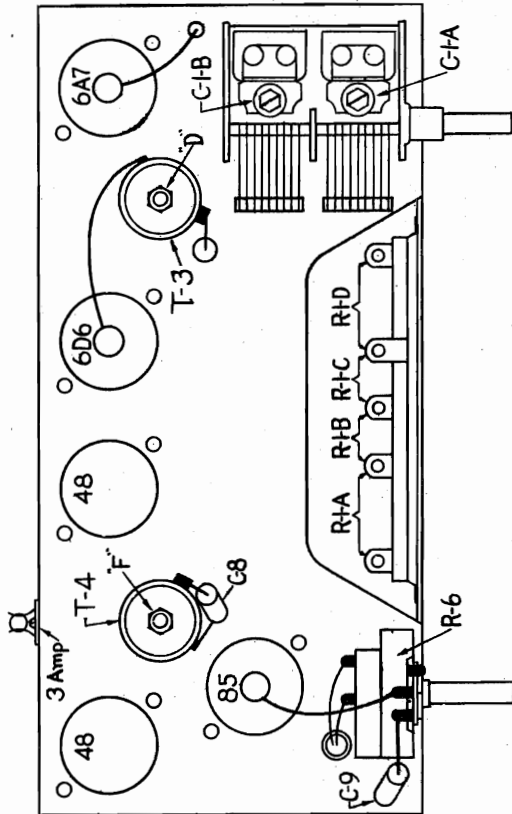
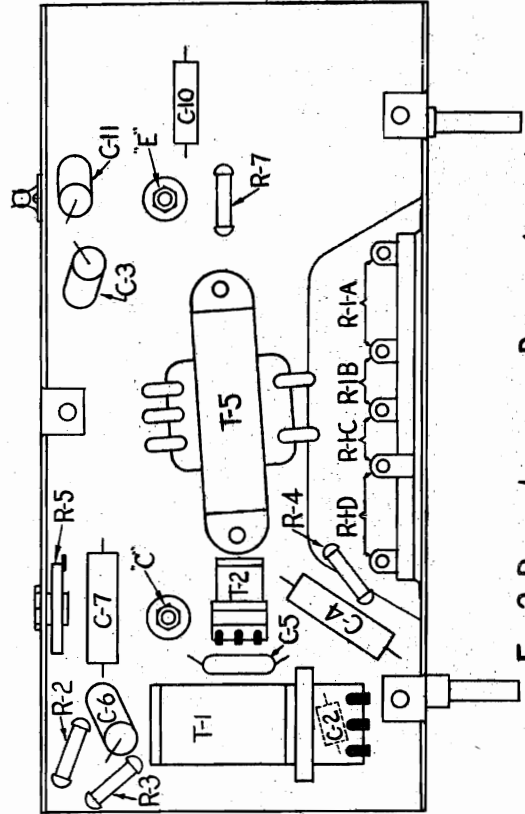

FIG. 2 PARTS LOCATING DIAGRAM (TOP)
FIG. 3 PARTS LOCATING DIAGRAM (BOTTOM)
(c) Peak the oscillator trimmer condenser shown as C-1-B on figure 2 until the oscillator output can be heard in the speaker. Then the trimmer C-1-A located on the adjacent section of the gang condenser, making all adjustments for maximum deflection on the output meter scale.
The R-5 resistor shown on figure 3 is a cathode bias resistor variable from 50 to 200 ohms. This resistor controls the residual bias on the 6A7 and 6D6 tubes and must be carefully adjusted. This may be accomplished by tuning the set to an extremely weak station and adjusting R-5 for maximum volume in the speaker.
- (d) Peak the I.F. trimmer located on the top of the 1st I.F. Coil, designated as "D" on figure 3. Then peak the trimmer located on the bottom of the same coil designated as "C" on figure 2. Due to the detuning effect the primary winding exerts over the secondary, it will then be necessary to reset trimmer "D" for maximum output.
- (e) Peak the I.F. trimmer located on the top of the 2nd I.F. coil, designated as "F" on figure 3. Then peak the trimmer located on the bottom of the same coil designated as "E" on figure 2. Then reset trimmer "F" on top of the coil making all adjustments for maximum output.